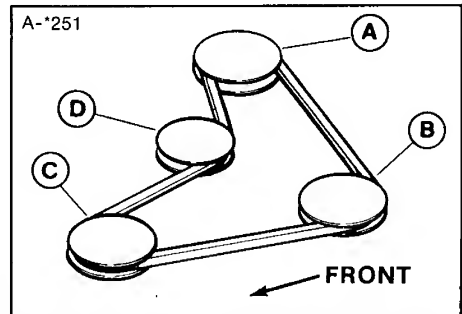

Figure 26. Mower Belt Pattern - 36''
4. Install the new belt on the pulleys as shown in figure 26.